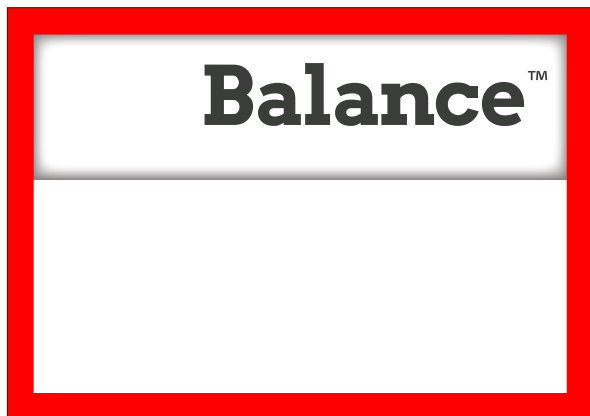

Figure 37 - Press To Correct For Excessive Residual Unbalance
**1.** After correcting for dynamic unbalance, and excessive residual unbalance is detected over tolerance, then a PUSH icon button will display on the dashboard (figure 37). Press the button.